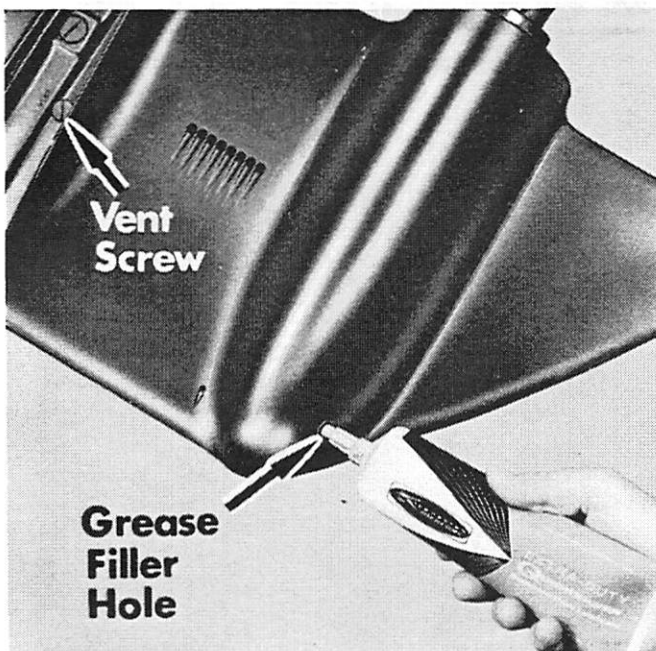

Figure 1. Lower Drive Unit Lube
1. Remove lubricant filler plug, located on right side of gear housing just above skeg, then remove air vent screw above anti-cavitation plate (Figure 1), being careful not to lose the accompanying washers.